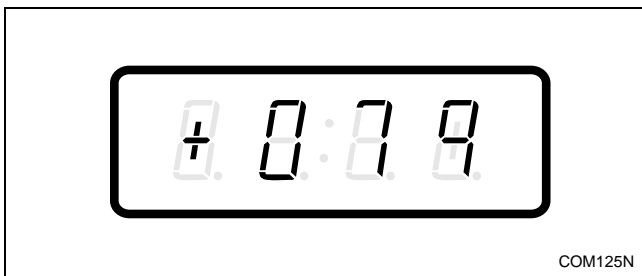

Figure 106
3. Press the DELICATES (+) or the COLD (-) keypad to scroll through the programmable options until “+079” appears in the VFD. Refer to *Figure 106*.